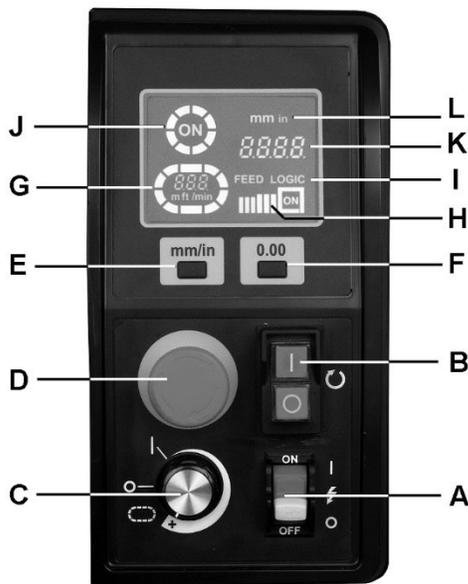

Figure 16
Figure 16 shows control panel functions.
Lower drum until it just contacts workpiece, then push zero depth reset button (F, Figure 16) to zero the setting of drum height from workpiece. The handwheel is then used to lower the drum in exact increments for each pass, by viewing the depth on the control display (K).
Press E-stop button (D, Figure 16) to shut down all machine operations. When E-stop is pressed, drum motor stops and “ON” (J) goes dark on display. Conveyor motor also stops, and racetrack (G) flashes.
**IMPORTANT:** The E-stop remains engaged until it is rotated clockwise for release. Also, the conveyor speed dial (C, Figure 16) must be returned to OFF position before restarting machine.
The Feed Logic control continuously monitors the load on the drum motor, and automatically regulates the speed of the conveyor motor to maintain highest feed rate without overload. When “Feed Logic” flashes and “ON” illuminates on the display (I, Figure 16), the Feed Logic control has detected too great a depth of cut and/or too fast a feed rate.